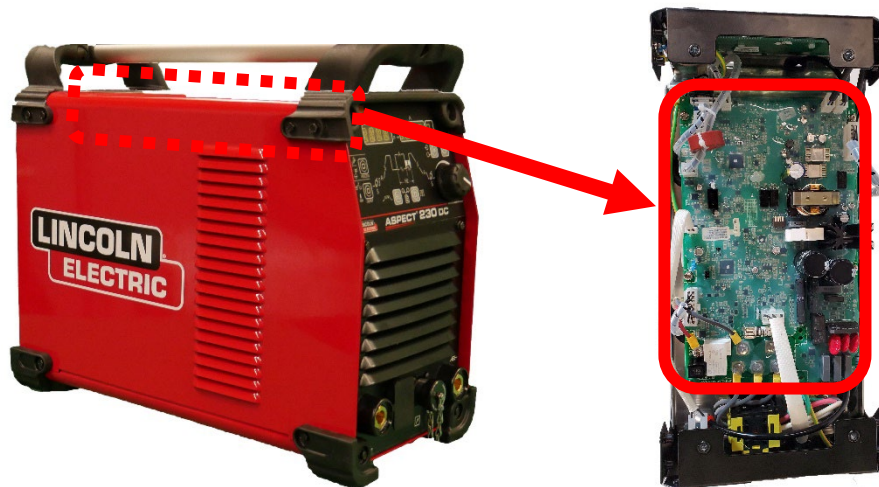

Figure F.1
1. For location of the Input Power Board refer to Figure F.1.